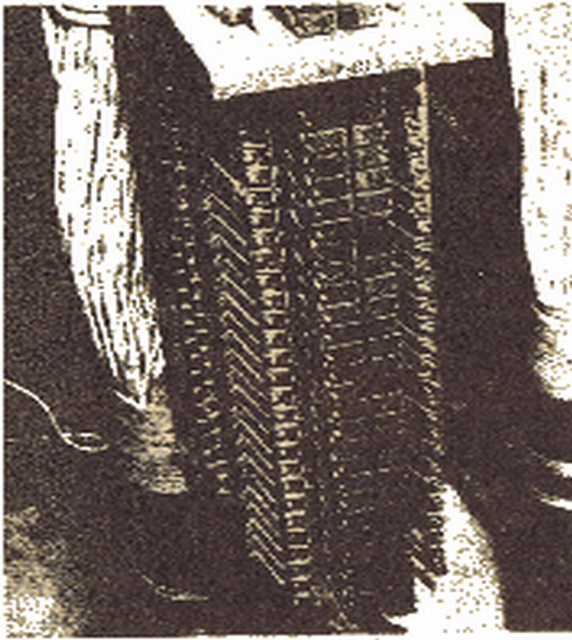
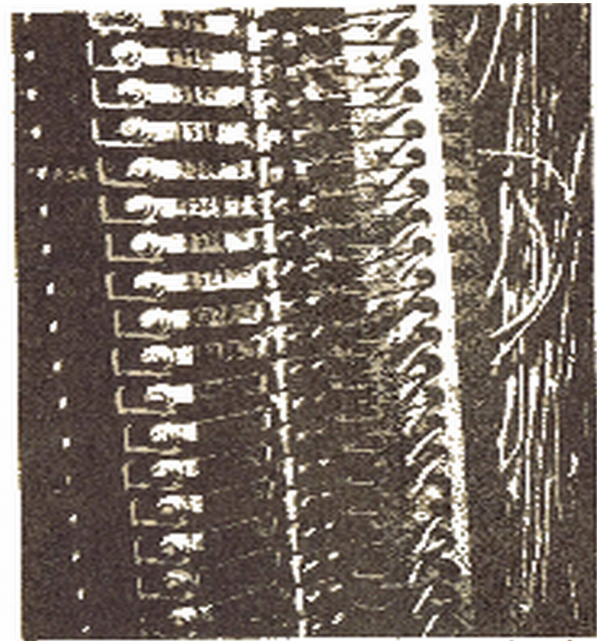

Figure 1. Telephone Cables Entering the Central Office are Fanned to Protectors and Terminate on the VMDF. Type B Protection.
Figure 2. Two-Conductor Jumpers, Run through a Fanning Strip and Connected to Terminals on the Right-hand side of the VMDF, Carry the Circuit to the HMDF.
4.02 Telephone lines (cables) generally enter the central office through the cable vault. In switchrooms, using Type B protection, the cables terminate (Figure 1) on one side of the protector on the vertical main distributing frame (VMDF). Protection is placed in the telephone circuit at the VMDF, using heat coils and carbon blocks (Figure 1). On the other side of the protector, 2-conductor (red and white) jumpers (Figure 2) are run to extend the lines to line equipment blocks on the horizontal side of the main distributing frame (HMDF).